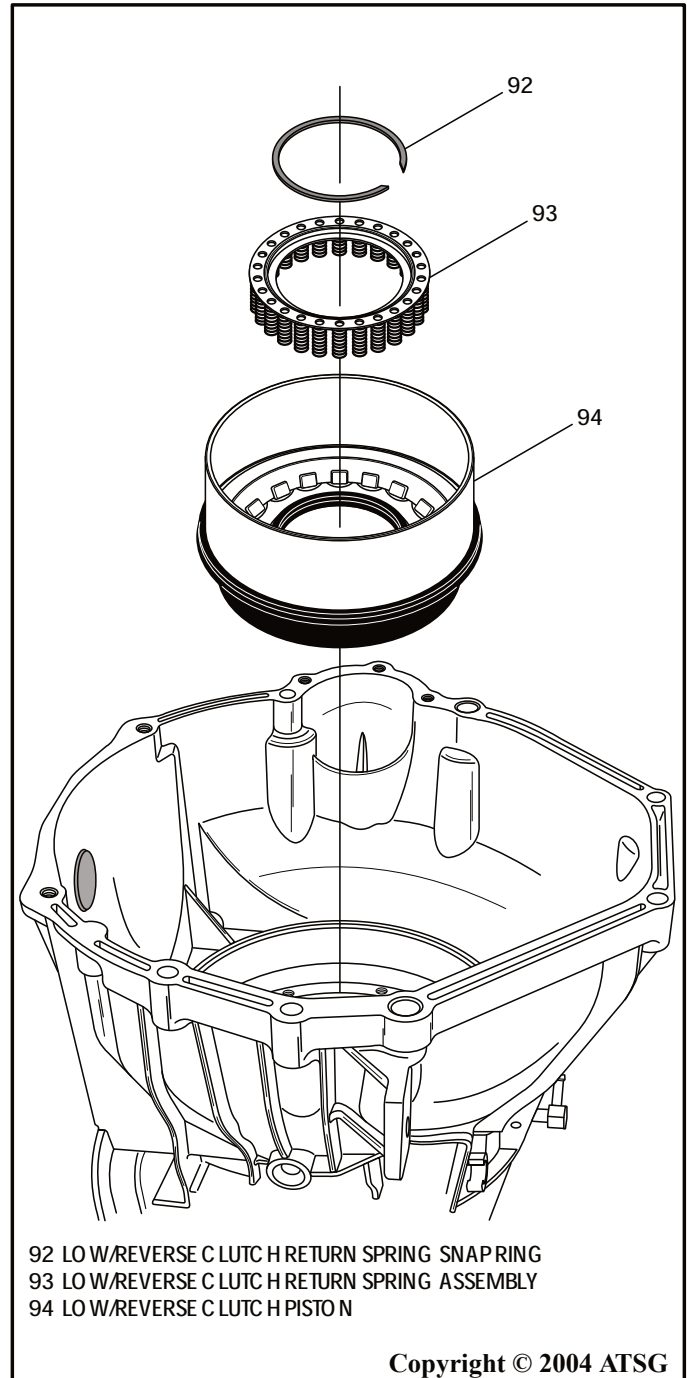

Figure 54
62. Rotate the transmission in fixture so that bell housing is facing up, as shown in Figure 54.
63. Using a suitable spring compressor, compress the low/reverse clutch piston return spring and remove the snap ring (See Figure 54).
64. Remove the low/reverse clutch piston return spring assembly, as shown in Figure 54.
65. Remove the low/reverse clutch apply piston, as shown in Figure 54.